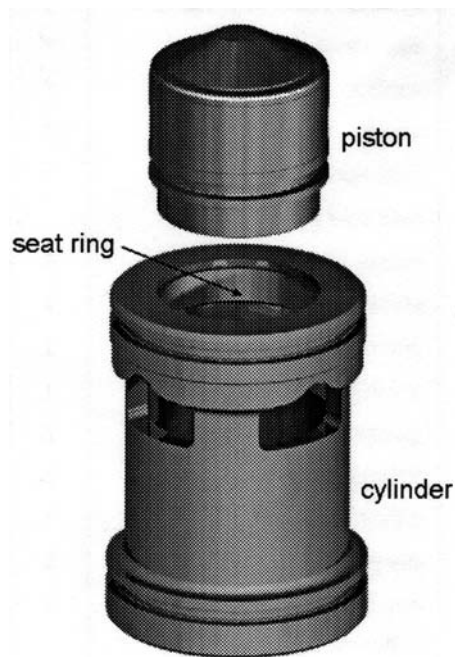

Figure 5-1. Using the Piston to Remove the Seat Ring from the Cylinder
1. Remove the nuts (31) that secure the cylinder head (13) to the valve body.
2. Alternately tighten the jack-out screws (17) until the cylinder assembly is free to be lifted from the valve body.
3. Lift the cylinder assembly by the cylinder head (13), remove it from the valve body (32), and place it in a vertical position with the cylinder head on top.
5. Use an Allen wrench to remove the screws (16) that secure the cylinder head (13) to the cylinder (1), and then gradually release the arbor press to remove the cylinder head from the cylinder. If your valve has a *visual* position indicator, it is not necessary to remove the indicator housing (24) prior to removing the cylinder head.
6. Remove the valve spring (11), indicator stem (18), retaining ring (10), washer (9), and piston (4) from the cylinder (1). If your valve does not have a position indicator, you will only need to remove the valve spring (11) and the piston (4).
7. Turn the cylinder (1) over with the ports on top. Place the piston (4), nose end up, into the recess between the cylinder and the seat ring (3). Use the piston (4) to press the seat ring out of the cylinder. See Figure 5-1.